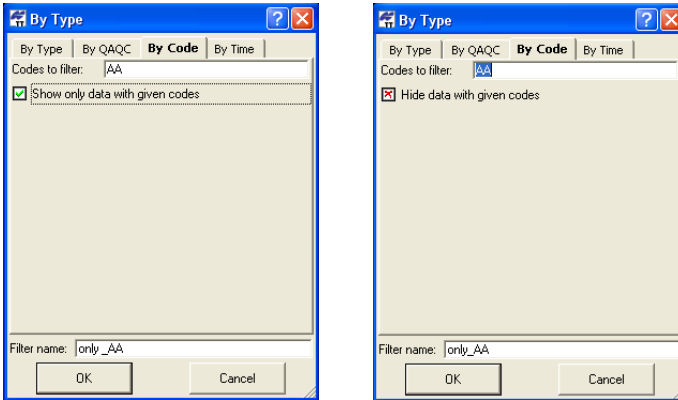

Figure 4-72. Select By Feature Filter
1. To hide/display data based on code, select the *By Code* tab on the *By Time* dialog box (Figure 4-72).
2. On the *By Code* tab, type the name of the code/feature to filter data by and select hide/display data with the entered code (Figure 4-72).